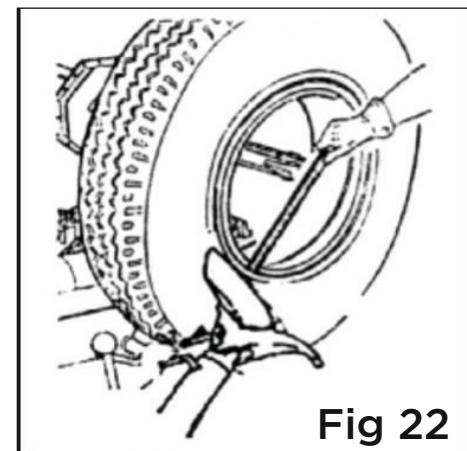

Fig 22
5) As shown in **Fig 22**, use the crowbar to move the open of the bead press ring on the edge of the rim and then use the disk to press from inside and rotate the main shaft counterclockwise.